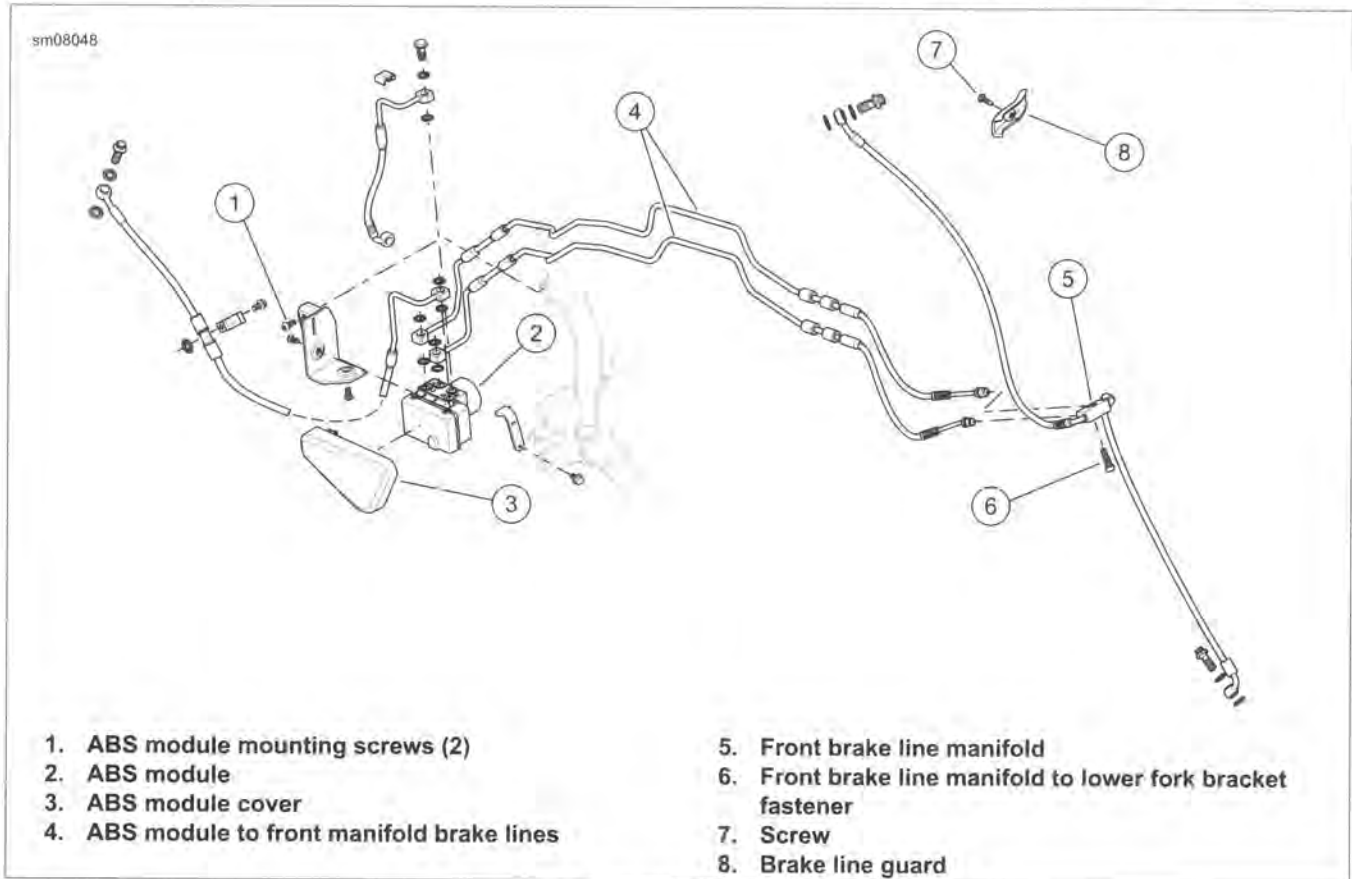

Figure 2-78. ABS Brake System (typical)
- See Figure 2-78. FXDF models equipped with ABS brakes have a brake line guard (8) on the right side upper fork clamp. When reinstalling or replacing guard, tighten screw (7) to 45-65 in-lbs (5.1-7.3 Nm).
10. See Figure 2-78. Remove two ABS module mounting screws (1) to release ABS module (2) bracket from frame.
2. See Figure 2-78. Position ABS module (2) on frame.
3. Install two ABS module mounting screws (1) attaching bracket to frame. Tighten to 90-114 **in-lbs** (10.2-12.8 Nm).